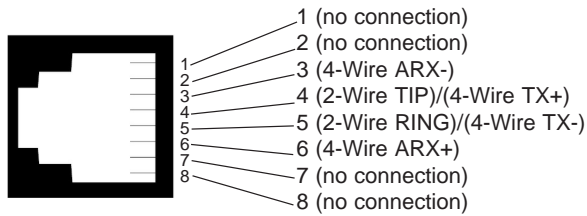

Figure 6. RJ-45 Line Interface
2. To function properly, the Model IM2RC/IA needs one or two **twisted** pairs of metallic wire (two or four wire). The twisted pairs must be **unconditioned**, dry, metallic wire, between 19 (.9mm) and 26 AWG (.4mm) (Appendix B describes cable requirements) . Standard dial-up telephone circuits, or leased circuits that run through signal equalization equipment, or standard, flat modular telephone type cable, are *not acceptable*. Figure 6, below,
The Model IM2RC/IA features two LEDs that monitor general operating status and the 10Base-T twisted pair link integrity. Figure 6 (below) shows the LEDs located directly beneath the RJ-45 jack. Following Figure 6 is a description of each LEDs function.